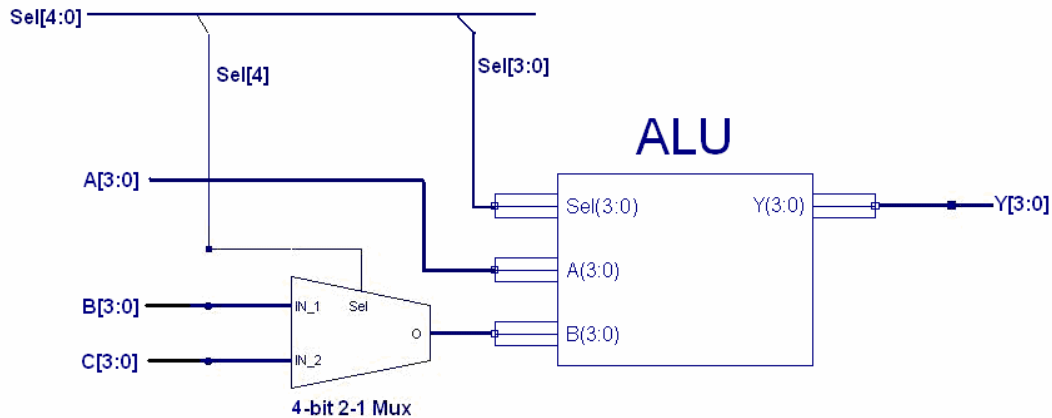

Figure 2: Block Diagram of a 4-bit Arithmetic-Logic Unit with a multiplexed input.
The diagram for the circuit to be implemented is given below in Figure 2. The design has three 4-bit input busses and one 4-bit output bus. Two of the input busses pass through a 4-bit 2-1 multiplexer, before being connected to the B input bus of the ALU. One of these busses will be selected based on the value of a fifth select bit – S₄. The ALU module will be implemented by expanding upon the code provided in the Lab guide Verilog chapter, Figure 3.13b.
7. In the *ALU_4bit.v* file, declare the top level module of the 4-bit ALU: *ALU_4bit*, listing and declaring properly all the input and output ports. There should be three 4-bit wide input ports of type *'wire'* (for A, B and C), one 4-bit wide output port of type *'reg'*, (for Y), and one 5-bit input port (for the select lines S_4 through S_0). This module will implement the functionality described by Figure 2.